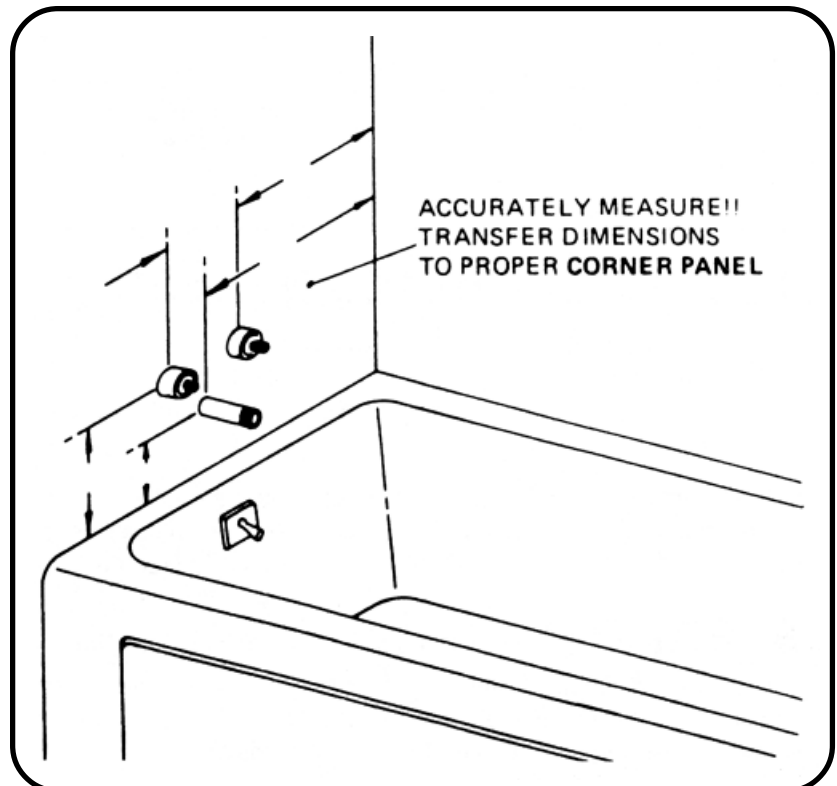

FIG. 2
2. Accurately measure tub spout and handle(s) hole location on alcove side wall and transfer dimensions to appropriate **Corner Panel**. You may want to make a template (use shipping carton) to check hole layout before you cut holes into **Corner Panel**. After you have double checked your measurements, using the proper size drill or hole saw, cut out holes for outlets. See Fig. 2.